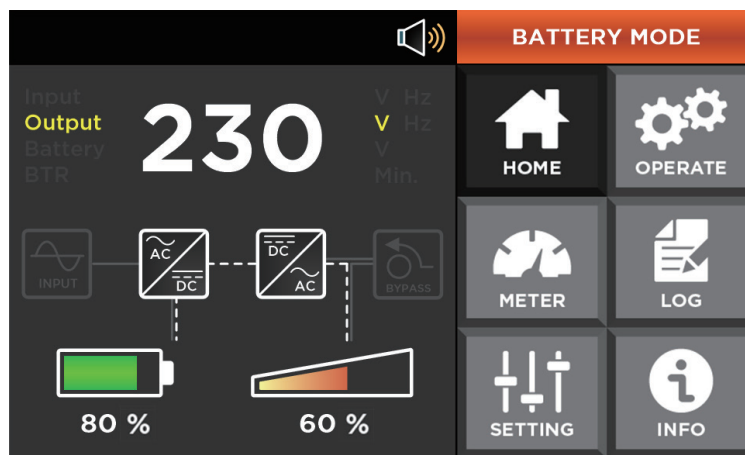

Fig.4-8 Start from Battery
4. Close the output isolation switch or external output isolation switch to supply the load, and the system is working on battery mode. As shown in Fig.4-8